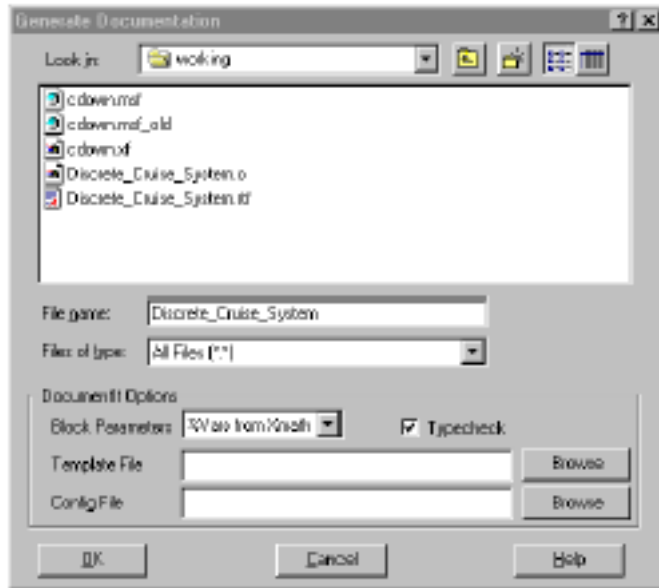

Figure 6-1. Generate Documentation Dialog
4. Select **Tools»DocumentIt** to bring up the Generate Documentation dialog (see Figure 6-1).